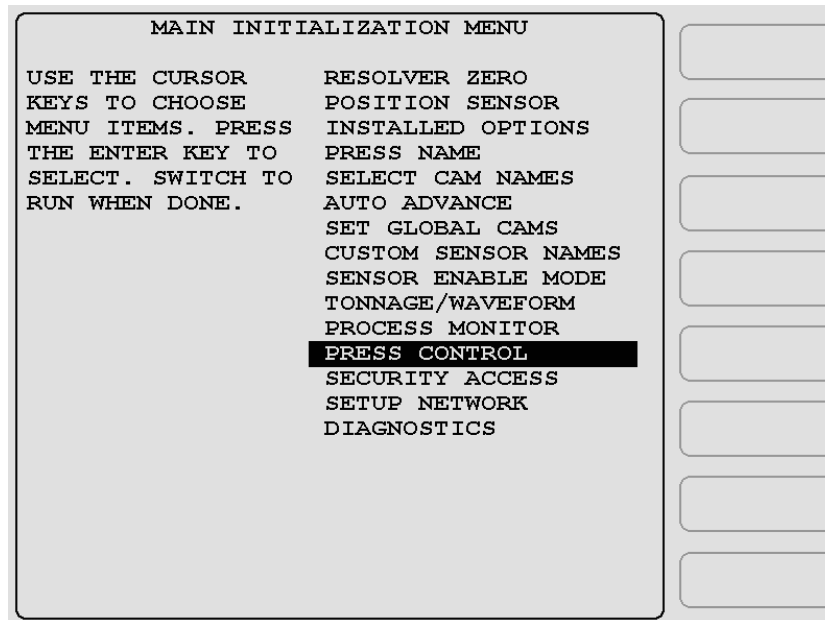
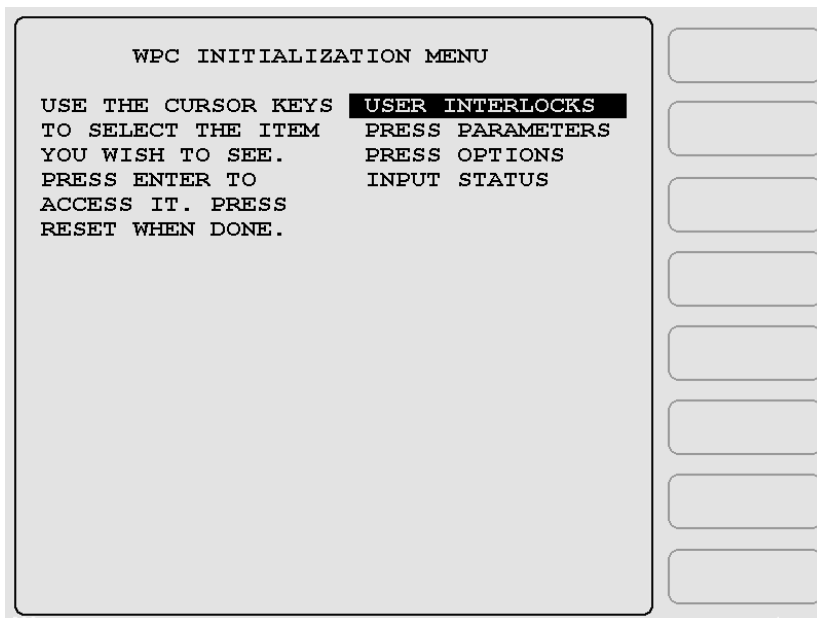

Figure 4. SmartPAC 2 Main Initialization Menu with PRESS CONTROL Highlighted
Figure 5. WPC Initialization Menu with USER INTERLOCKS Highlighted
1. On the SmartPAC 2 Main Initialization Menu (see Figure 4, above), move the highlight bar to PRESS CONTROL, using the cursor keys, and press ENTER. The WPC Initialization Menu (see Figure 5, next page) displays with the USER INTERLOCKS item highlighted by default.